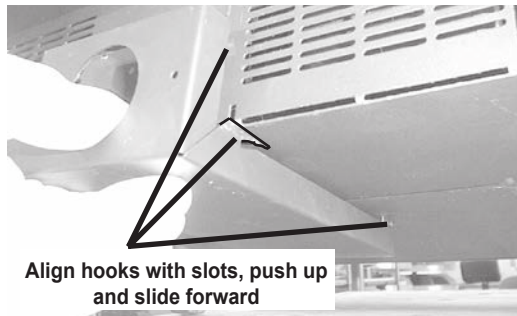

Figure 19.2
2. Align hooks in air channel with slots in convection blower mount and ash box, **Figure 19.2**. Push up and slide forward.